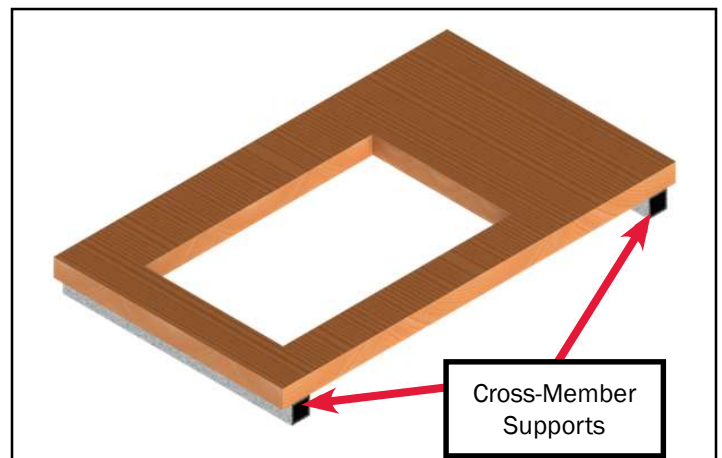

Figure 5
**NOTE:** Inspect the area beneath the mounting location to ensure that no structural members will interfere with the cutout for the mounting flange. Verify that a support structure of adequate strength has been constructed. Figure 5.